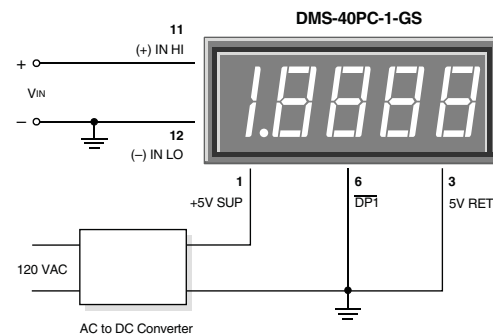

Figure 2. Single-Ended Input Configuration
**1. Single-Ended Input Configurations:** The DMS-40PC can measure single-ended signals with either positive or negative polarities. True single-ended inputs always have one of their two terminals at the same potential as the DMS-40PC's 5V RETURN (pin 3). Single-ended inputs are usually derived from power supplies that have a common ground with the meter's +5V supply. Figure 2 shows the recommended connections to be used with this type of input. Pin 12, (-) INPUT LO, is shown directly tied to ground. This connection to ground must be a separate wire or pc-board trace originating at  $V_M$ 's negative terminal. This hook-up will normally eliminate display instabilities and errors caused by ground-loop currents which can occur if (-) INPUT LO is tied to ground at, or near, pin 3.